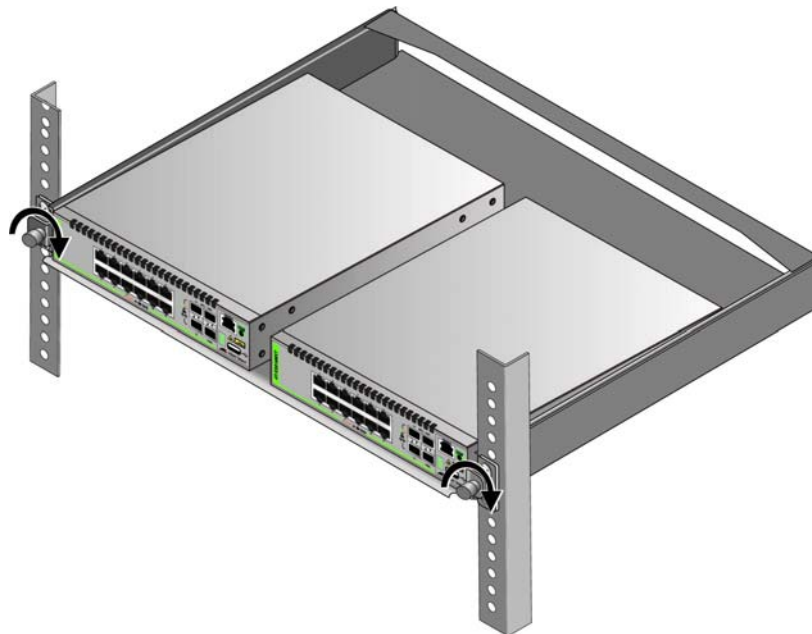

Figure 38. Tightening the Two Thumbscrews on the AT-RKMT-J15 Bracket
11. Tighten the two thumbscrews to secure the tray to the bracket. Refer to Figure 38.